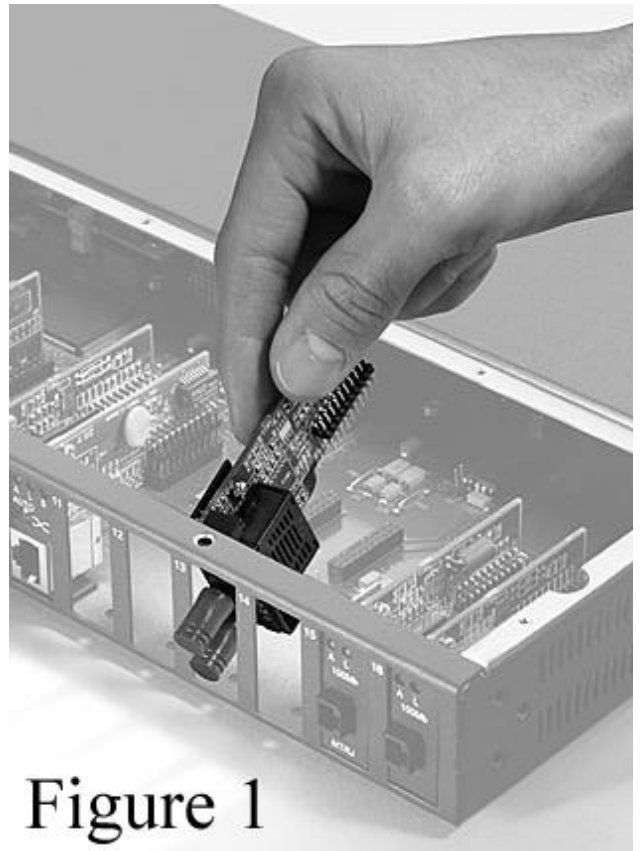

Figure 1
STEP 1: Select a port module to install and place it **as shown in Figure 1**—angled down and against the front inside of the chassis. Each port module fits into the selected cutout slot in the front of the chassis. Choose any open slot. (Remove a blank PM to create an open slot if required, see Step 4)